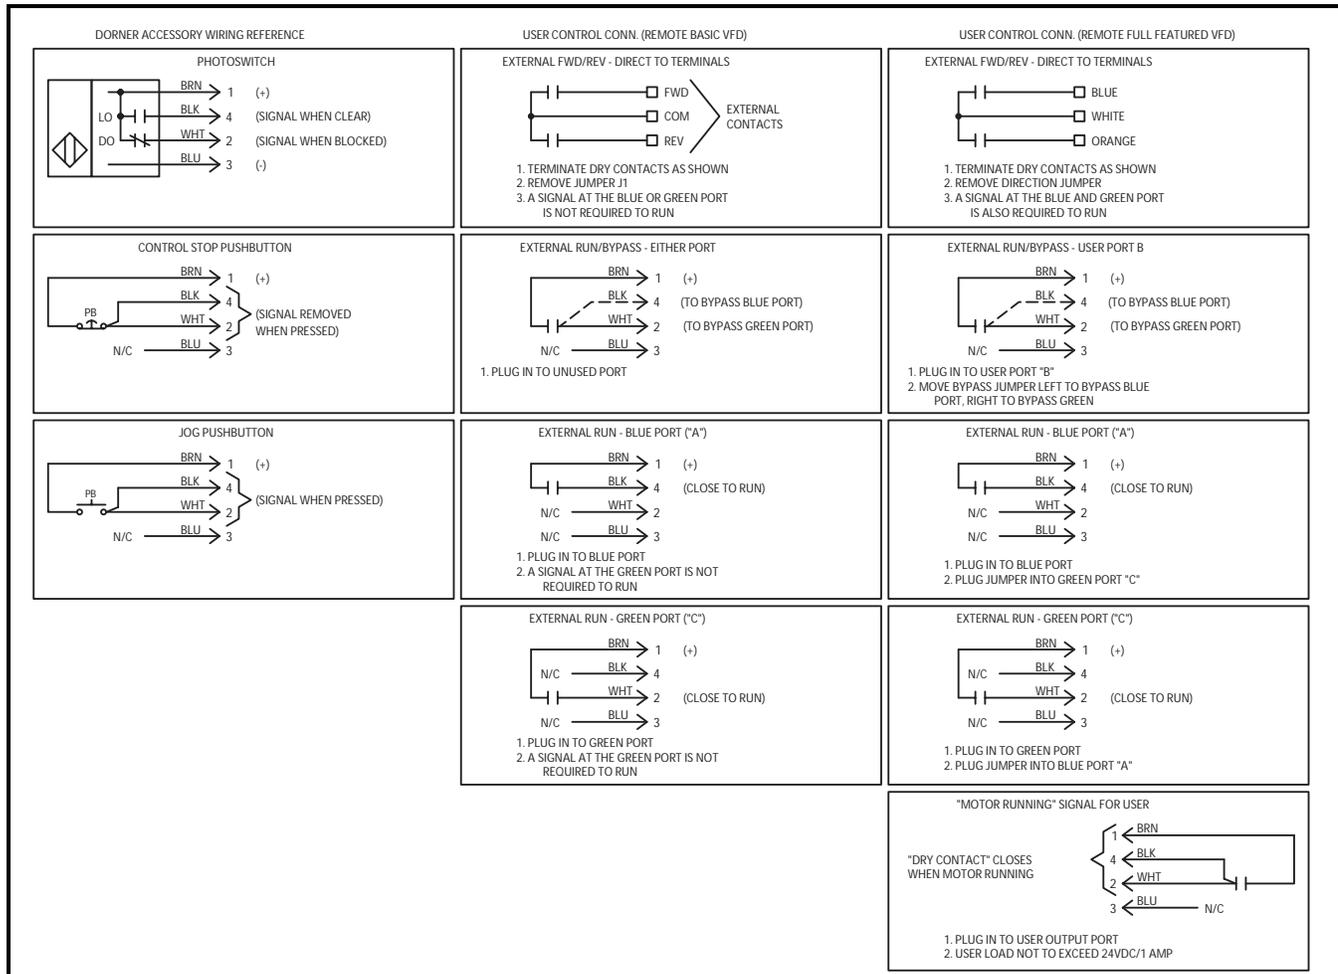

**Figure 57**
2. Plug the M12 connector into the motor running port (**Figure 57, item 1**).